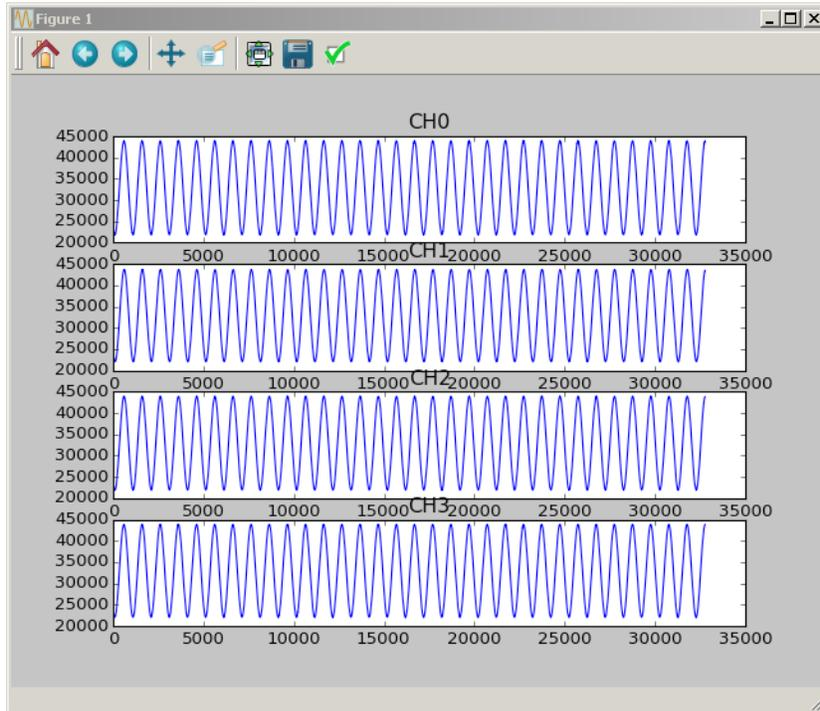

Figure 3. Example Time Domain Plot
- 9) Run the appropriate test script (`Ltc2123Dc2226DualClockingSolution.m` for Matlab, `ltc2123_dc2226_dual_clocking_solution.py` for Python). Plots similar to Figures 3 and 4 should appear. At this point, data is stored in program variables for further manipulation and testing.